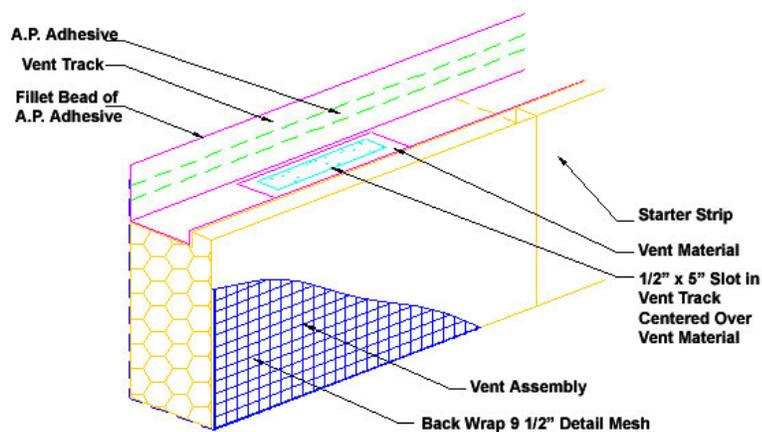

Fig. 19
7. Install the Dryvit Vent Track and Dryvit Track by applying a continuous horizontal bead of Dryvit's AP Adhesive on the wall side of the vertical nailing flange of the track and position over the Dryvit Starter Strip. When installing the Dryvit Vent Track the cut out (slot) must be located directly above the Dryvit Vent Assembly – Figure 19. Press firmly against the substrate to ensure firm and continuous contact between the adhesive and the wall surface. **NOTE: It is recommended that the surface of the Drainage Track and Vent Track be lightly sanded to improve adhesion of Backstop NT or AquaFlash.**